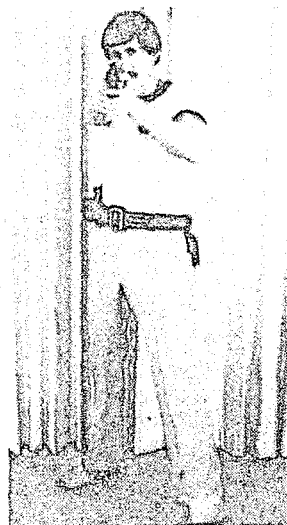

Figure 6-25
1. Foot position (See Figure 6-25)
2. Body position (See Figure 6-25)